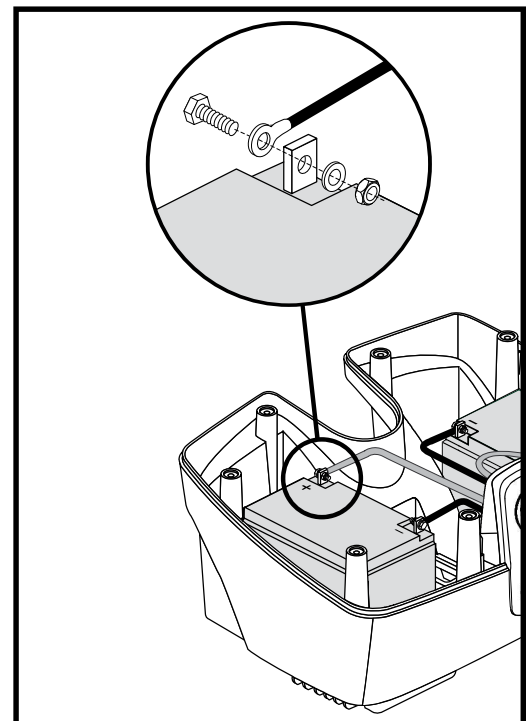

Figure 21. Disconnecting the Battery Cable on a 17-22 Ah Battery Box
**NOTE:** Some batteries require the removal of a nut and bolt when disconnecting the battery cable from the battery terminal. See figure 21.